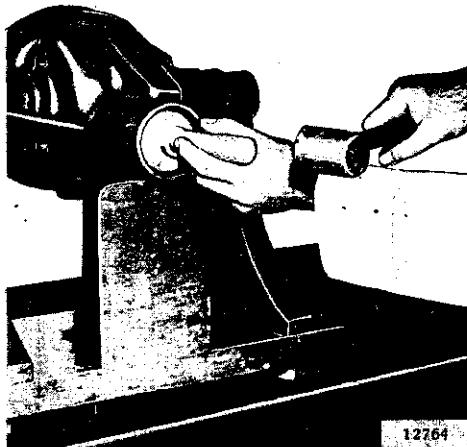

FIG. N-25—INSTALLING OUTER BEARING CUP
a. Install outer bearing cup using Tool W-264 on model 27 and W-126 on model 44 axles, as shown in Fig. N-25.